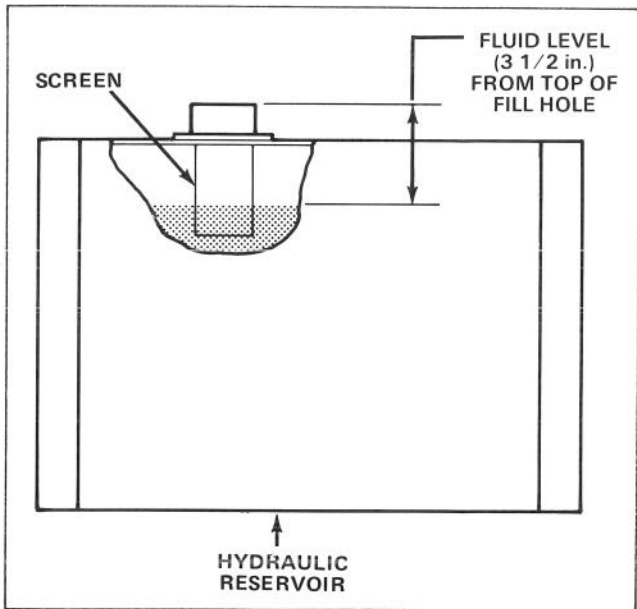

Figure 44
**DAILY CHECKS:** Check the hydraulic fluid level daily. Replenish with Mobil DTE26 as necessary. Also, check daily for leaks, chafed or otherwise damaged hoses and make sure there are no kinks, sharp bends or twists in any flexible line. Repair or replace as necessary (Fig. 44).
2. Refill the reservoir with Mobil DTE26 hydraulic fluid until it is 4 in. to 4-1/2 in. (10.2 to 11.4 cm) from the top of the reservoir (Fig. 44).